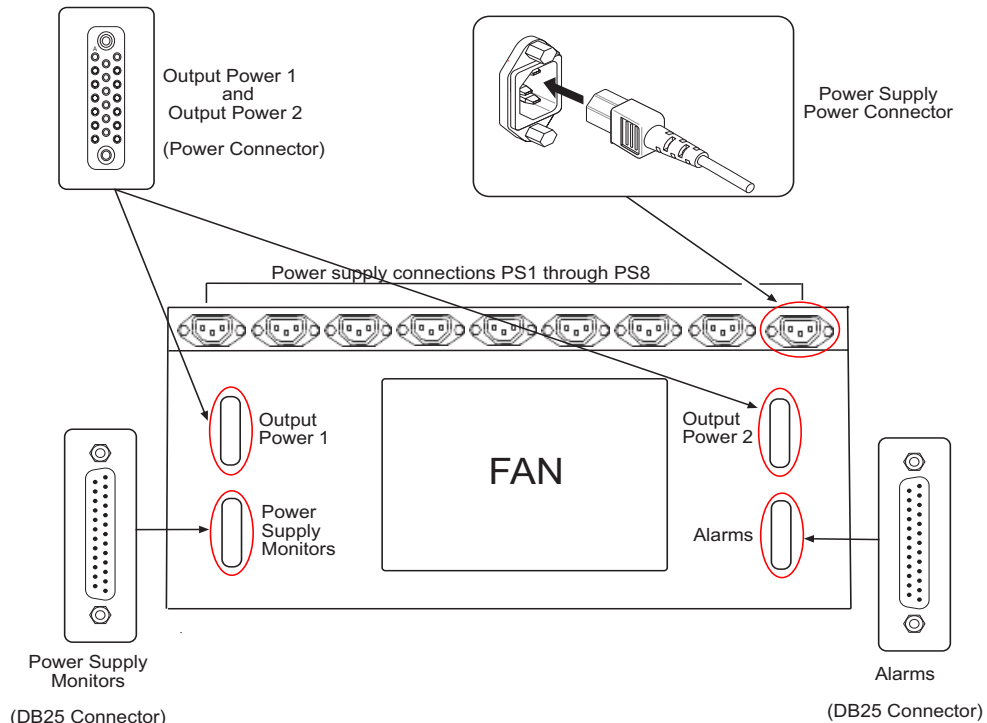

Figure 2-32. NV6257 Power Supply (Rear View)
- 1 On the rear of the NV6257, locate the 'Alarms' connection, as shown in Figure 2-32.